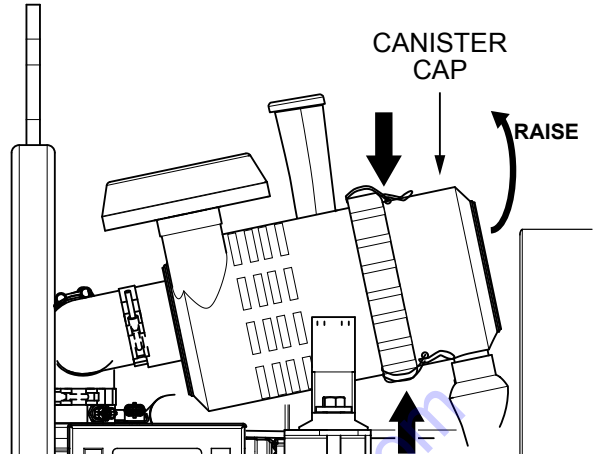

Figure 48. Raising the Main Canister
3. Raise the main canister, unlatch the three end fasteners and remove the canister cap (Figure 48).